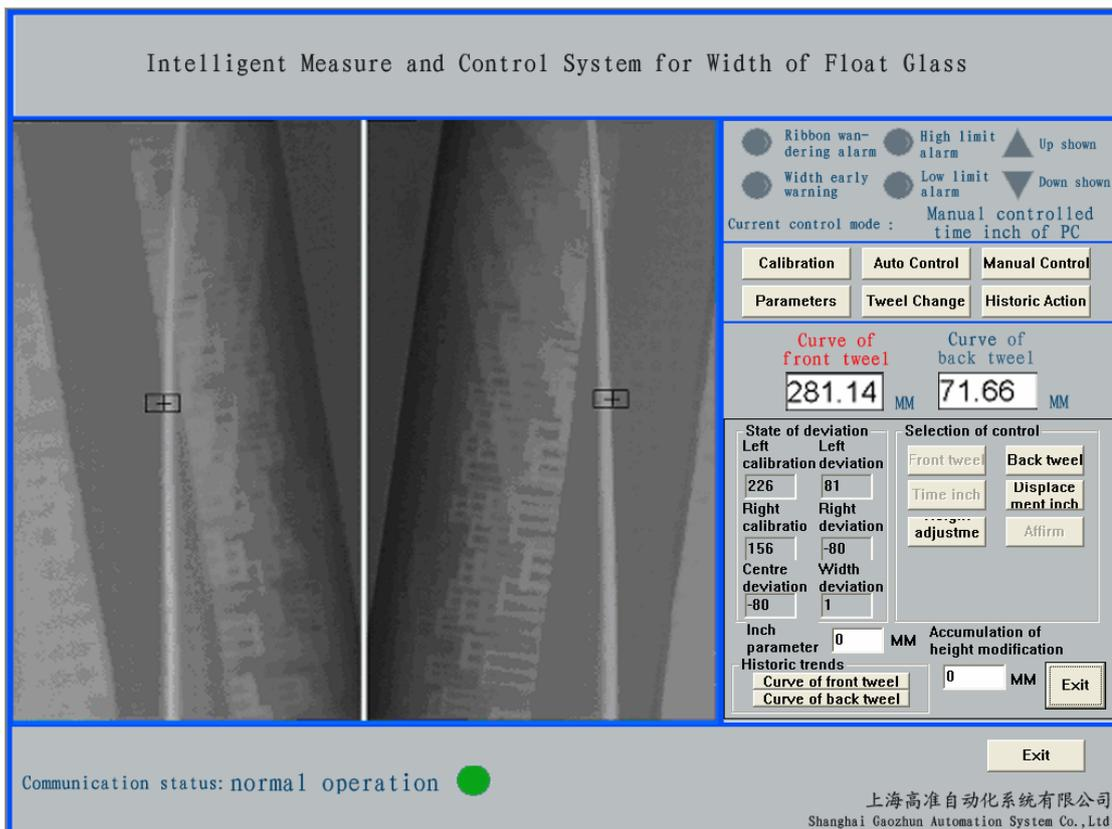

Fig. 9 Manual Control Interface
5.5 Click the button of manual control with the left key of mouse and the interface appeared is as shown in Fig. 9